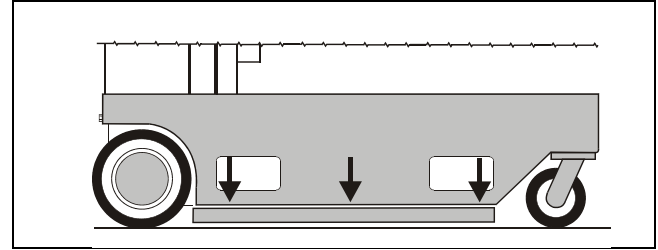

Figure 2-2. Pot-Hole-Protection Bars Lowered.
- b. Ensure Pot-Hole-Protection device is fully engaged (bars down on sides) when the platform is elevated (See Figure 2-2.).